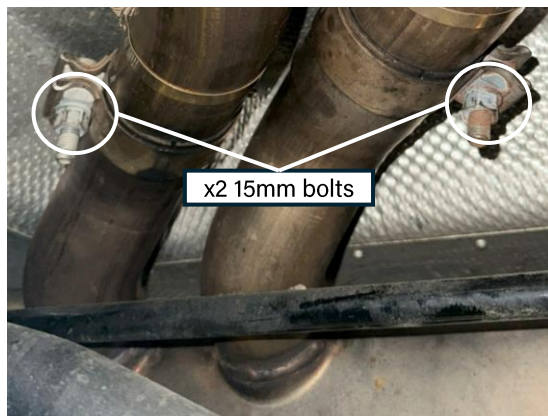

Figure 11h: Rear section muffler clamps
- Remove the rear section muffler clamps (Figure 11h)